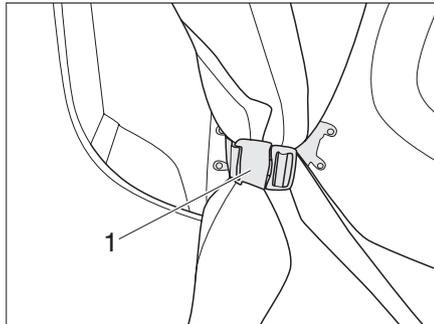

Fig. 57 Pop-up roof belt lock
- ▶ Open the belt locks (Fig. 57,1) on both sides of the pop-up roof.
- ▶ Close the belt locks (Fig. 57,1) on both sides of the pop-up roof.